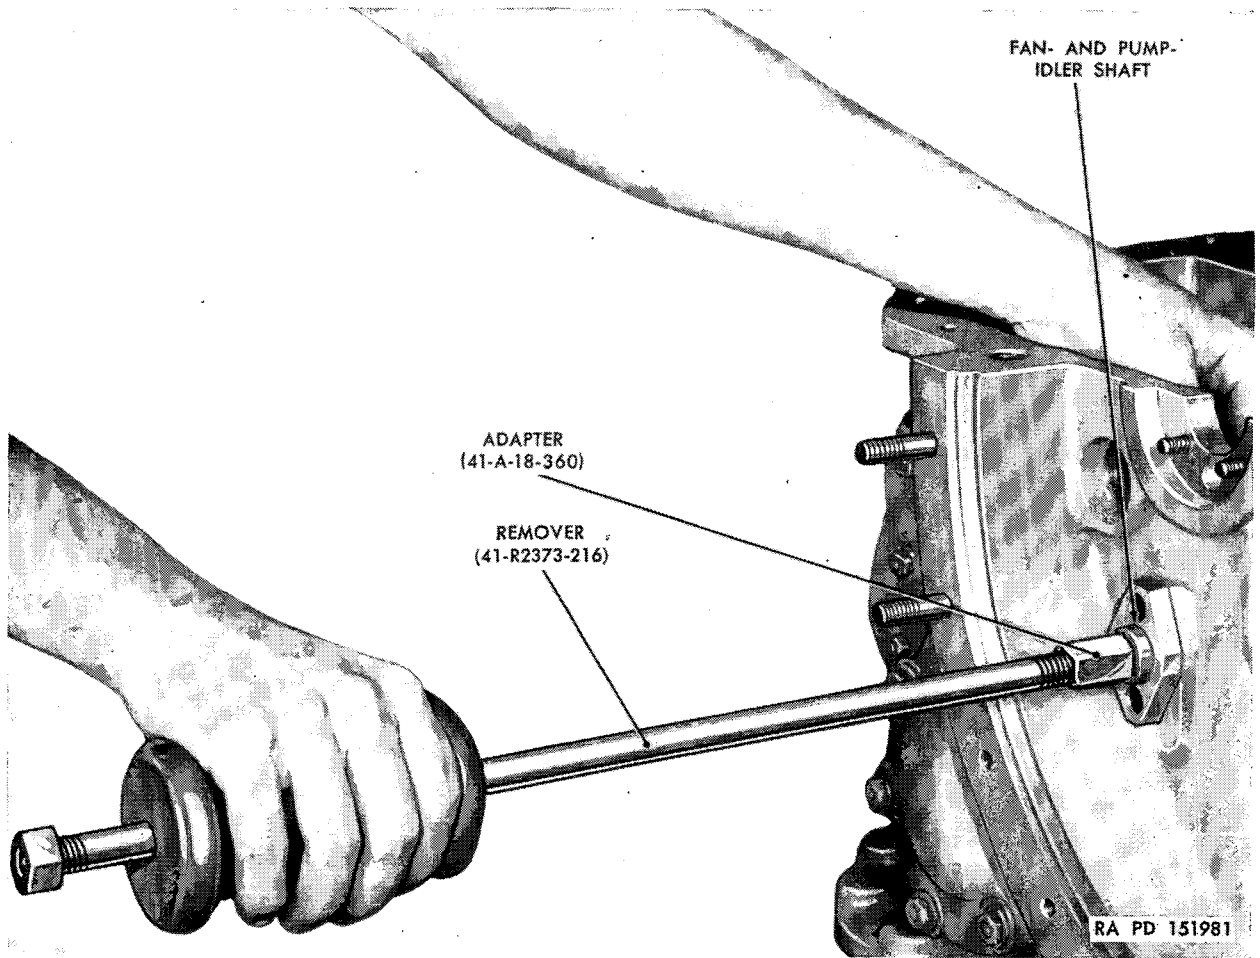

Figure 242. Removing fan and pump-idler shaft.
- (2) Remove the fan and pump idler-shaft retaining snap ring using snap ring pliers (41-P-1992-34). Hold the idler gear to keep it from falling and pull the shaft from the housing using remover (41-R-2373-216) and adapter (41-A-18-360) (fig. 242).